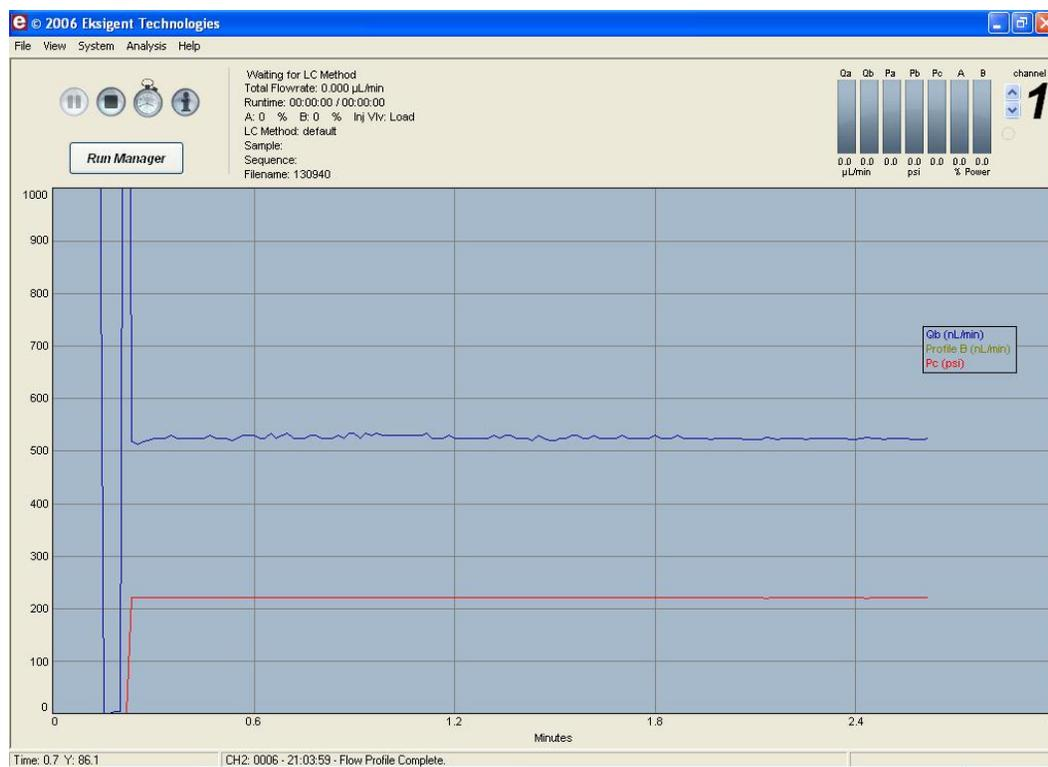

Figure 5-1. Acquisition Window
After initialization, the Control software's **Acquisition Window** of the Control software will be displayed (Figure 5-1).
step 1 If not already in the Run Manager, click the **Run Manager** button located on the Eksigent Control Software's **Acquisition Window**. (Figure 5-1).